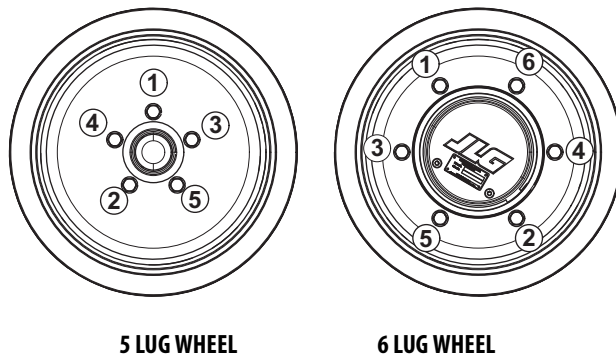

Figure 5-3. Wheel Lug Nut Tightening Sequence
2. Tighten lug nuts in the following sequence. (See Figure 5-3.)